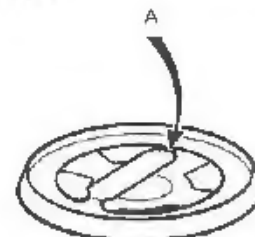

Fig. 2. The valve (inlet and outlet). A = 1.6 mm ($\frac{1}{16}$ in)
- 2 Examine the plastic valve assemblies (see Fig. 2) for kinks or damage to the valve plates. They can best be checked by blowing and sucking with the mouth.